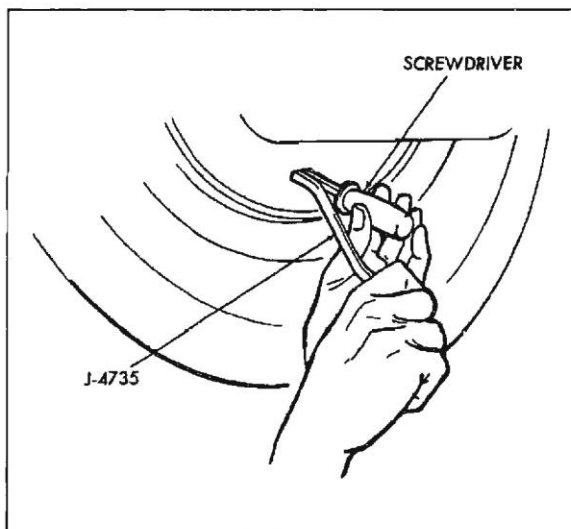

Fig. 5-5 Preparing to Back Off Adjusting Screw
2. Insert a small rod or screwdriver through the adjusting screw slot in the backing plate and hold automatic adjuster lever away from the adjusting screw star wheel (Figs. 5-5 and 5-6).